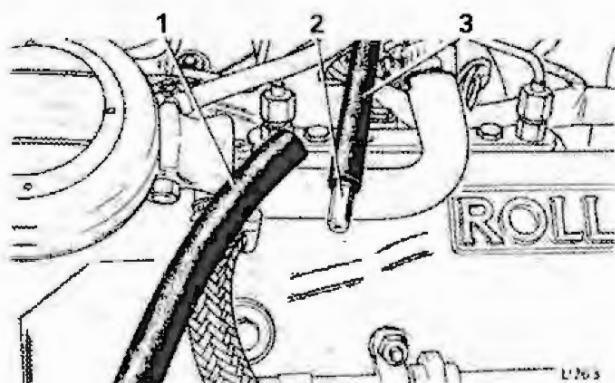

Fig. 1 Disconnecting the purge line
5. Disconnect the purge line at the restrictor. Leave the restrictor fitted into the hose to the engine (see fig. 1).